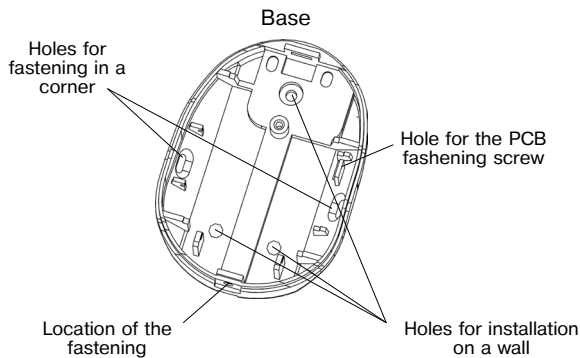

Figure 2
- drill the holes (Figure 2) in the base of the Detector case. They will be used for fastening the Detector;